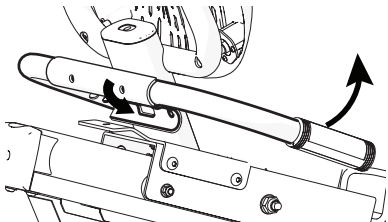

Figure 7
- 2. Tilt the handlebar assembly with the handlebars slightly downward before fitting it into the slot behind the seat, making sure not to pinch the cable (Figure 7). Roll the handlebar assembly upward so that it seats in the slot behind the seat.